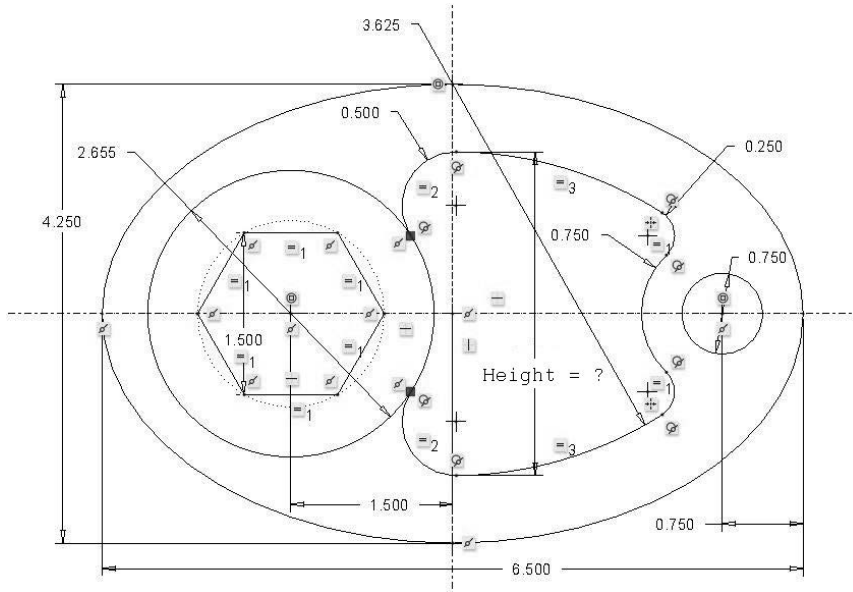

Figure 3-72 Problem 3—Special Cam
3.3 Draw the front view of "special_cam" (Figure 3-72). **Design Intent**—The cam must be a symmetrical ellipse (draw centerlines). The hexagonal shaped hole must be 1.500 inches from the geometric center of the cam. The cutout and small hole are for mass reduction only. Mating arcs are tangent. What is the maximum height of the circular arc cutout? The 3.625 radius arcs are centered at the top and bottom of the ellipse.